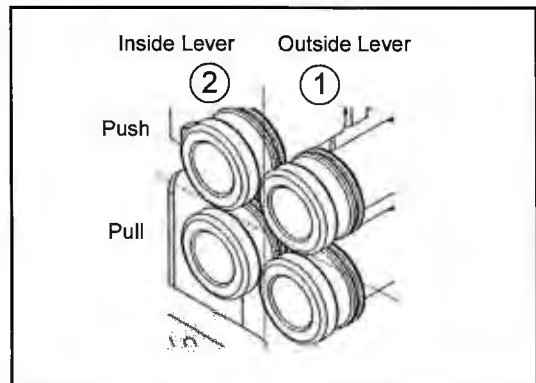

Fig. 25-3 - Quick Disconnect Identification
- Pushing the control lever forward and down increases the flow to the couplers. The lower port becomes the pressure side and the upper port becomes the return side. (See Fig. 25-3).